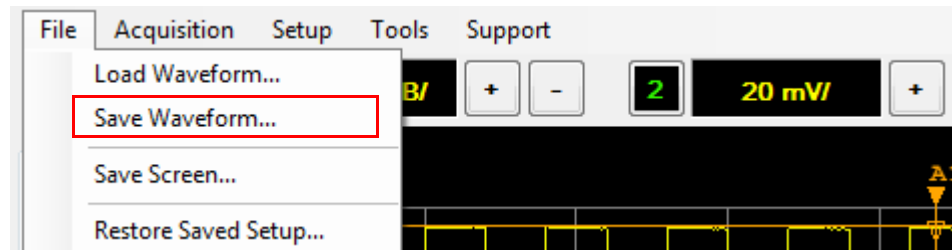

Figure 2-43 Save Waveform... selection in the File menu
- 1 Select **File > Save Waveform...** on the toolbar to save the current 8990B waveform data as a *.CSV file as shown in Figure 2-43.